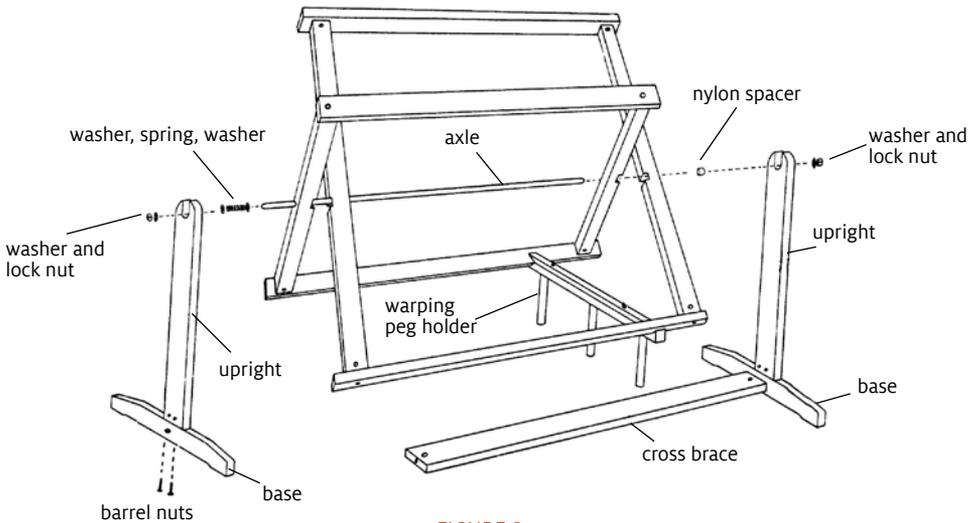

FIGURE 2
2. Assemble three of the four corners of the second frame, and then interlock this second frame with the first frame. The notches on the first and second frames should face each other so that the two frames will fit together (figure 2). Now fasten the remaining corner of the second frame.
1. Attach the bases to the uprights using two 3-1/2" trusshead machine screws and barrel nuts (see figure 2).